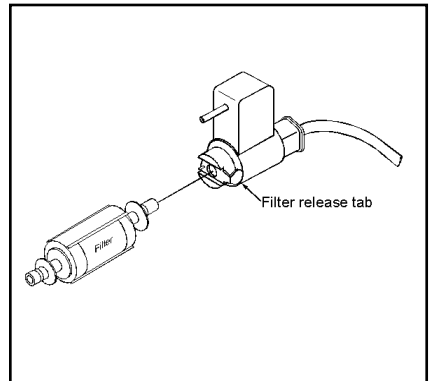

Fig. 2
**6.1** Insert the larger end of the filter cartridge into the fitting at the end of the flexible air hose. Push the filter gently until it is firmly seated and the metal Filter Release Tab pops out, locking the filter into place. See Figure 2.